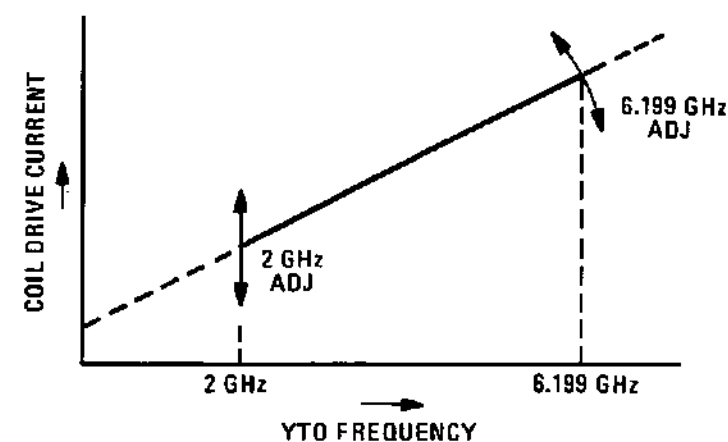

Figure 8-79 YTO Frequency versus Coil Drive Current
**Input Amplifier.** The YTO Pretune Voltage is amplified by the Input Amplifier (a discrete component operational amplifier). The output voltage appears at the Coil Driver's non-inverting output and therefore across the Sense Resistor. A portion of this voltage is returned to the Input Amplifier's inverting input. This return voltage is adjustable to allow for variation in the frequency-to-voltage sensitivity of different Tuned Oscillators. See Figure 8-79. RC network C4 and R10 provide compensation to prevent high frequency oscillation.